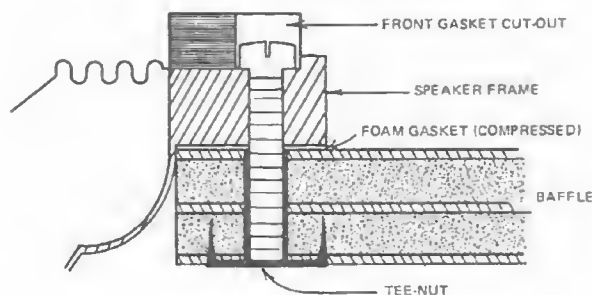

FIGURE 2 — Front Mounting Detail
**IMPORTANT!** When front mounting, the screw head must fit down into the front gasket cutout. See Figure 2.